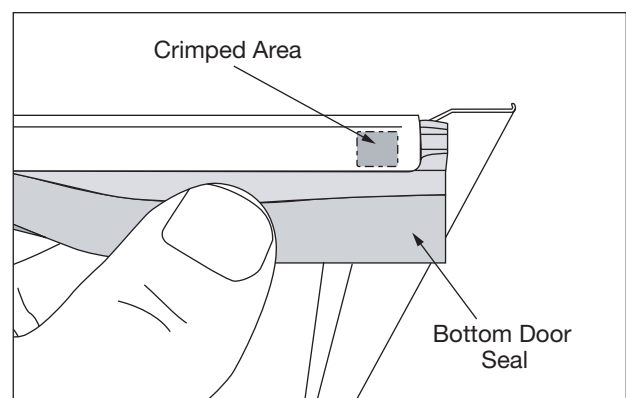

Figure 5-12. Bottom Door Seal Removal
4. Using a small flat bladed screwdriver or putty knife, pry out the crimped area until the bottom door seal can be removed from door assembly. (See Figure 5-12)